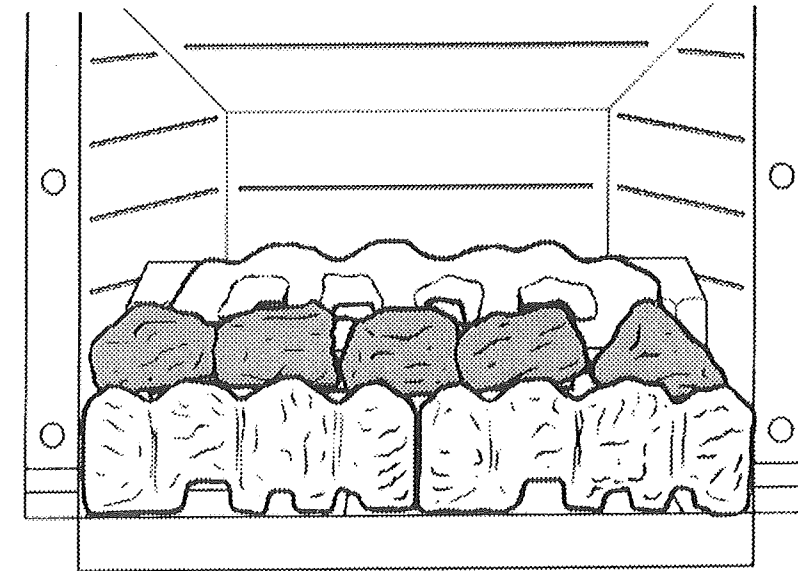

Figure 13 - Placing the first five dress coals
Take five (5) dress coals from the bag of fourteen (14), placing them so that the most realistic surfaces may be seen from the front of the fire, and ensuring they bridge the space between the moulded front coal pieces and the front edge of the matrix, as shown in Figures 13 & 14 below.